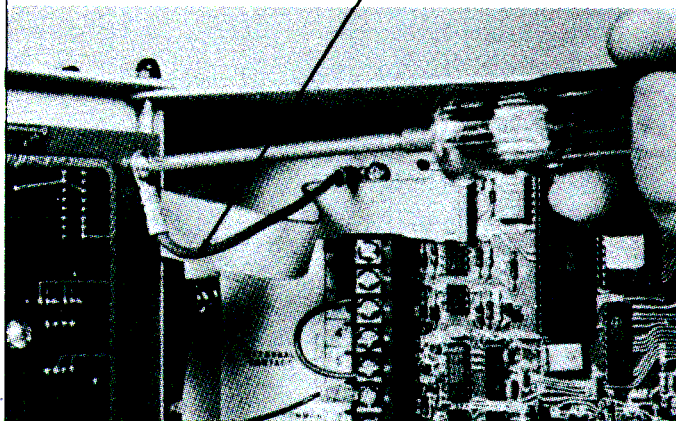

Figure 5. Ground Jumper Connector
11. Line up the option board with the mounting studs on the door and re-install the ten (10) phillips screws.
**NOTE:** Check to make sure the green ground jumper connector is installed under the mounting screw located on the upper right-hand side of the option board (see Figure 5).